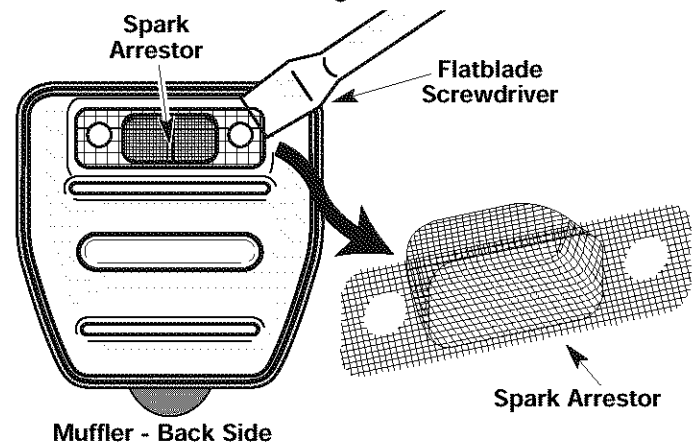

Fig. 29
4. Using a small flatblade screwdriver, carefully pry up the spark arrestor from the recessed hole (Fig. 29). Remove the spark arrestor from muffler.
5. Clean the spark arrestor with a wire brush. Replace it if it is damaged or if it is impossible to clean thoroughly (Fig. 29).